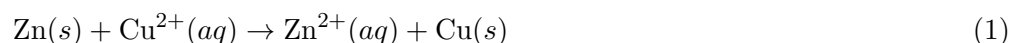

Figure 1: Energy Diagram for Reaction between Zinc Metal and Copper(II) Ion
Consider the redox reaction (1) and Figure 1 below: